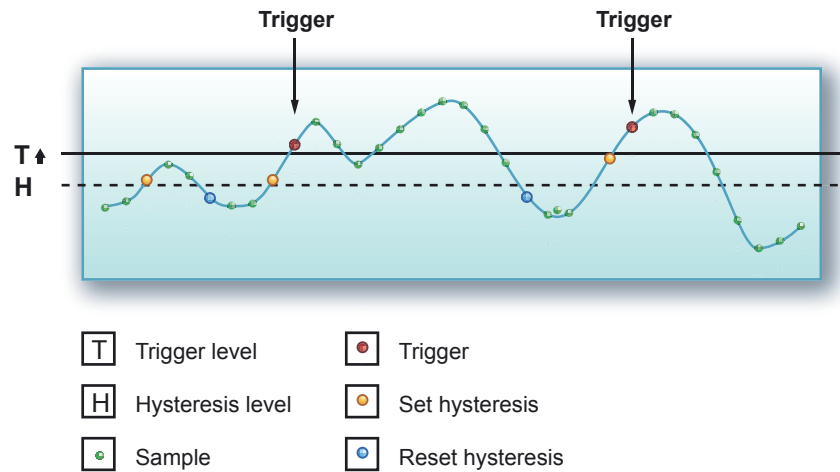

Figure 10.3: Trigger level hysteresis
Figure 10.3 shows the influence of the additional hysteresis. Fundamentally, everything is the same as described earlier. The only difference now is that a second level (H) is used to “arm” the level trigger detector. Otherwise stated, the trigger level has been expanded to be a trigger zone that spans multiple levels.